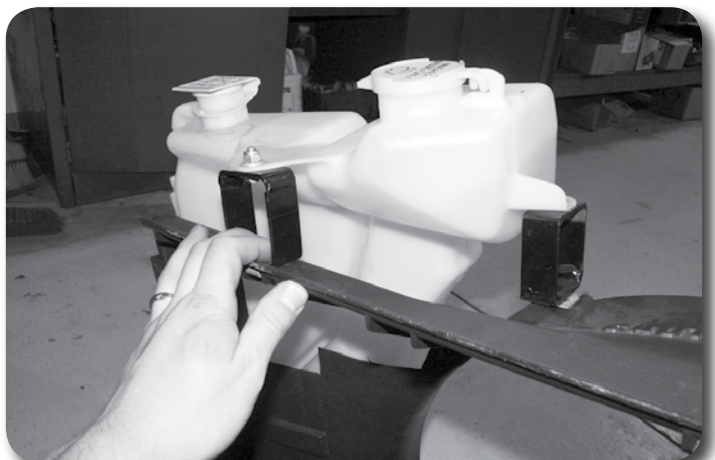

Figure 17
39. Empty the overflow/washer bottles. Install the bottle on the modified shroud at the two top mounts **Figure 17** with the provided 2-1/2" tall x 1-1/2" wide rectangular spacers and 6mm x 85mm bolts with 1/4" USS washers threaded in the factory nut tabs. Snug hardware.